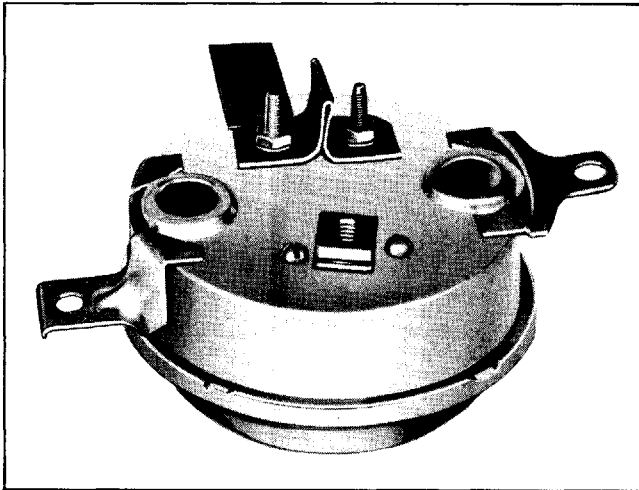

Fig. 12-71 Crimps Which Fasten Instrument Cluster Bezel to Body
6. Remove and replace defective gauge. To replace individual gauge, straighten out the crimps which retain the bezel to the body of the cluster (Fig. 12-71). The front of the cluster can then be removed to gain access for replacing individual gauge. **NOTE:** If thermo-gauge assembly is being replaced, route the new capillary tube the same as the one which was removed and install the grommet in the hole where it passes through the dash.